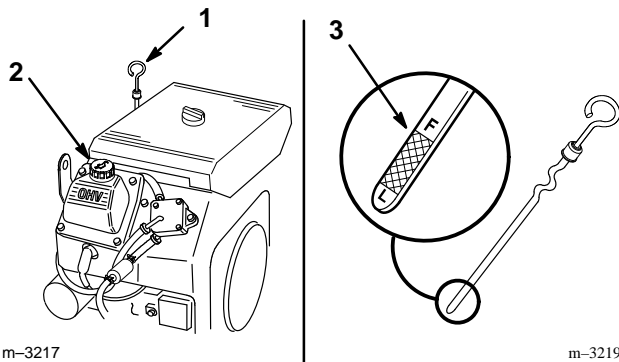

Figure 2
2. Clean around the oil dipstick (Fig. 2) so dirt cannot fall into the filler hole and damage the engine.
3. Pull out the oil dipstick and wipe the metal end clean (Fig. 2).
4. Slide the oil dipstick fully into the filler tube (Fig. 2). Pull the dipstick out and look at the metal end. If oil level is low, slowly pour only enough oil into the filler tube to raise the level to the “FULL” mark.